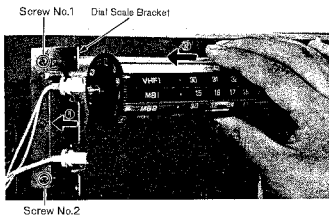

Fig. 25
2. Loosen the two (2) dial scale bracket screws (nos. 1 & 2), as shown in fig. 25.
3. Push dial scale bracket in the direction of arrow ① and remove dial scale in the direction of arrow ②, as shown in fig. 25.